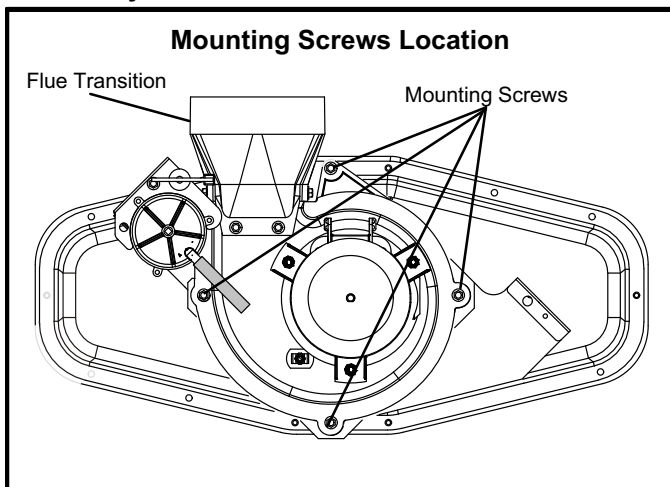

FIGURE 13
- 1 - Remove the four mounting screws (figure 13) which secure the combustion air inducer / pressure switch assembly to the orifice plate. Lift the inducer assembly and rotate it 90 degrees clockwise or counterclockwise to either the 3 o'clock position or to 9 o'clock position. Re-secure with four screws. Gasket should be left in place.